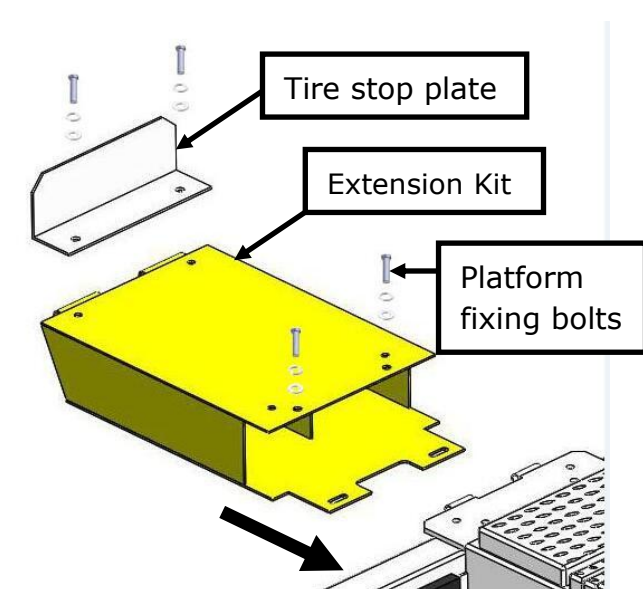
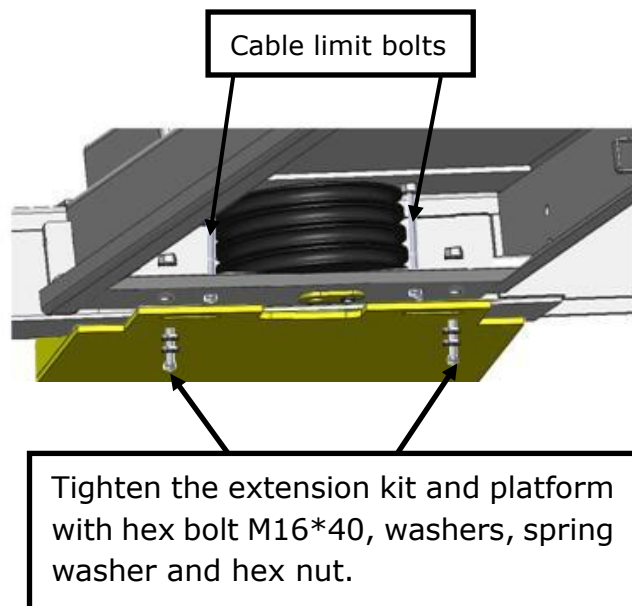

Fig.46
Fig.47
2.Put the extension kits into the platform, then tighten with the bolts. (see Fig.46, Fig.47)